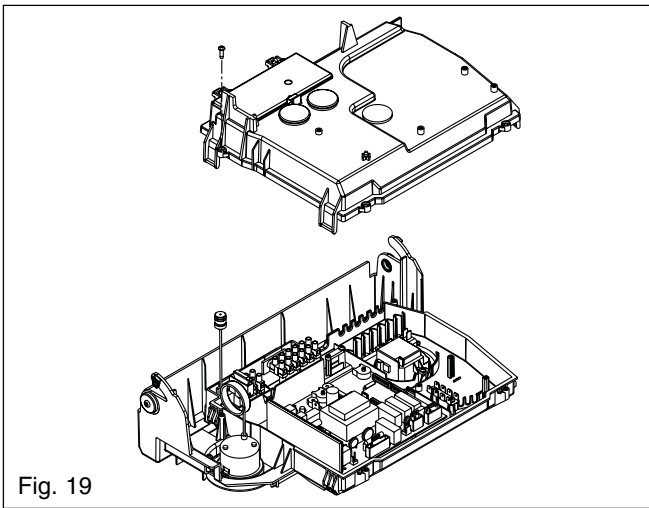

Fig. 19
**6.12 PRINTED CIRCUIT BOARD fig. 19**
Locate and remove the PCB cover and securing screws (fig. 19/19A), locate and remove the time clock retaining screws, remove time clock. Disconnect wiring after carefully taking note of all electrical connections. Replace in the reverse order.